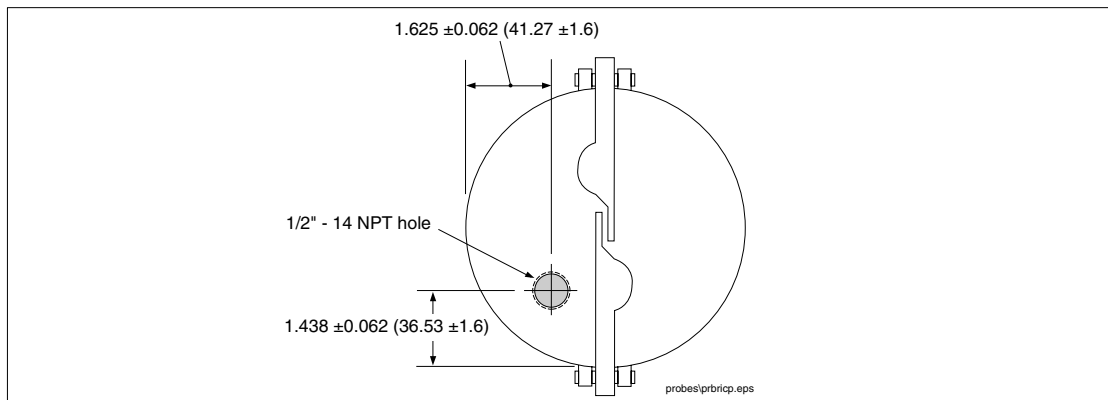

Figure 13. Modifying an existing metal riser cap
2. Drill and tap the cap for a 1/2"-14 NPT cord grip thread [Figure 13].